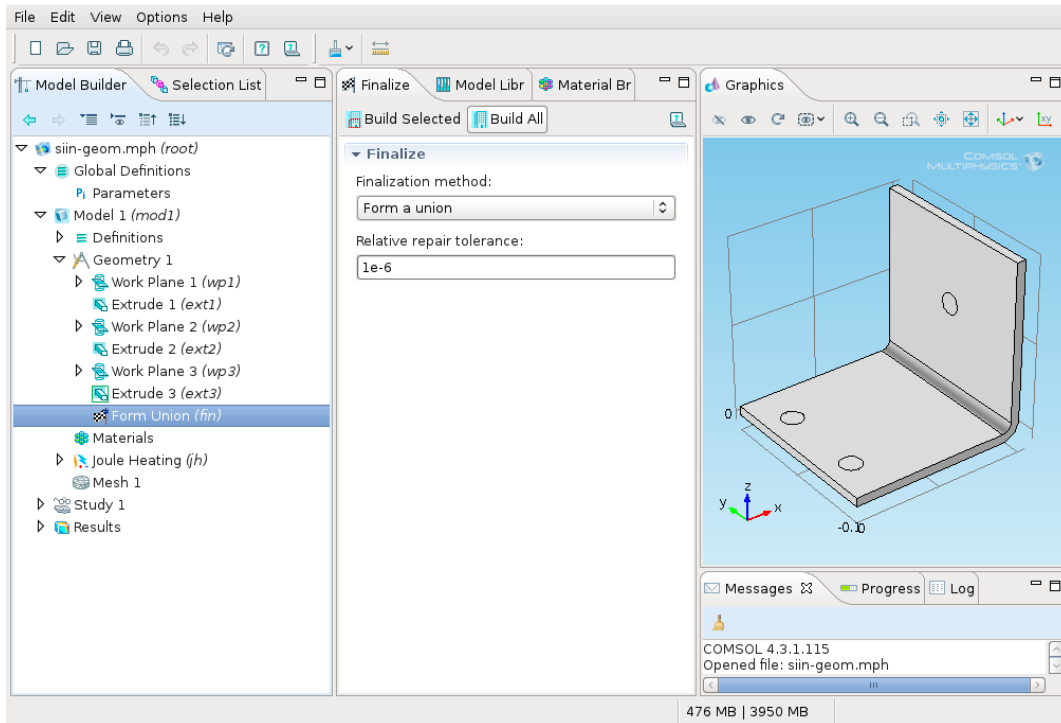

Figure 29: The busbar with the new width.
- 3 Execute **Model Builder** → **Form Union** and then rerender the geometry by clicking the **Build All** button. The result is in the Fig. 29.